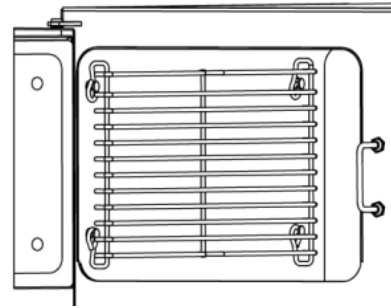

Figure 3-1
1. Refer to Figure 3-1. Each rack has four loops: two top, and two bottom. Hold the slide rack so the ends of the hanger loops are towards compartment wall.